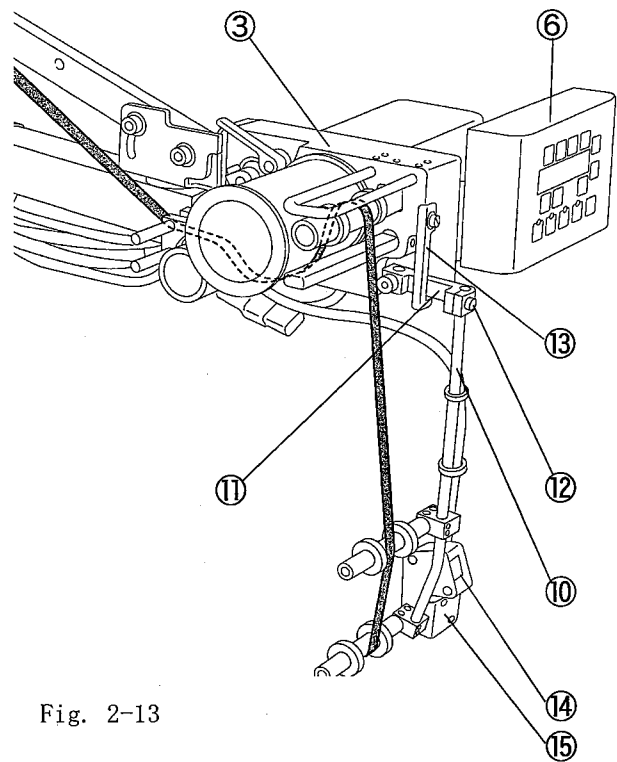

Fig. 2-13
4. Insert the supporting bar⑩ into the guide roller arm⑪ of the tape feeder③, and tighten the screw⑫. (Fig. 2-13)